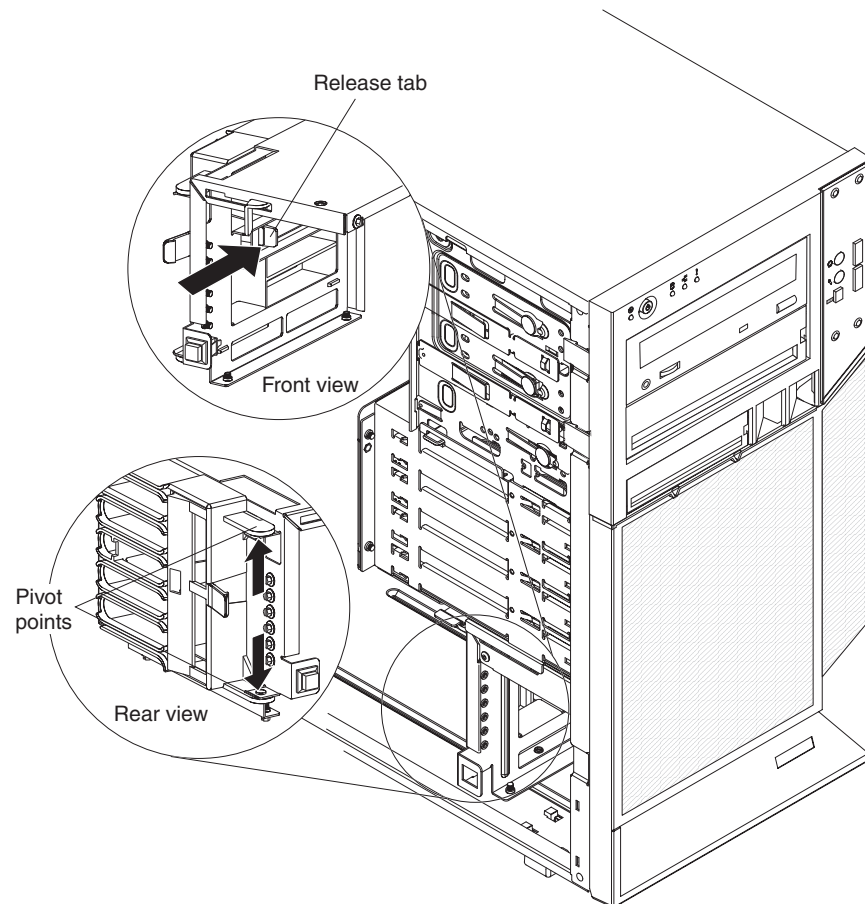

Figure 43. Removing front adapter-retention bracket
6. Push the top and bottom sides of the adapter-retention bracket out of the notches that secure the retention bracket to the chassis, (see Figure 43). Remove the retention bracket from the chassis.